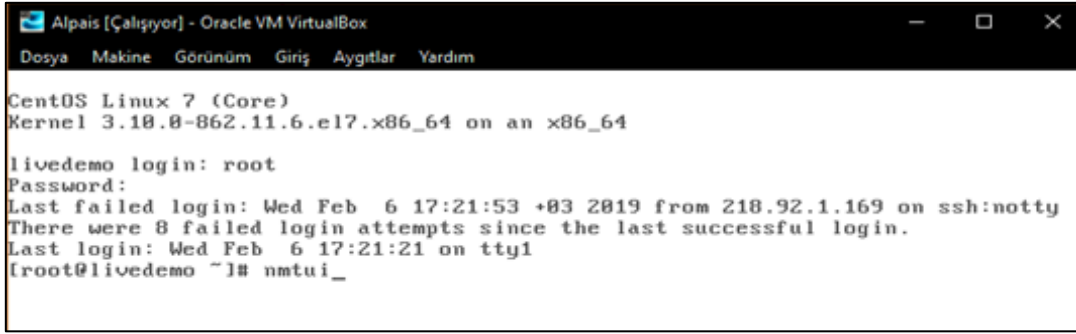

Figure 21. Console Screen
- f) After the login information, 'nmtui' is written to the console screen to make Network configuration settings. (see Figure 21)